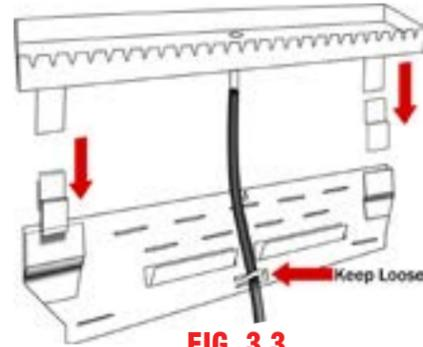

FIG. 3.3
4. The water disperser (E) will sit in the bracket pockets on the stone wall bracket (B). Until the stone is mounted it will need to be placed temporarily above the bracket so the stone can be positioned on the bracket cleat. Place one Pocket Clip (M) inside each of the wall bracket pockets (B) (Fig 3.3). The curved end of the Pocket Clip should be up and facing the wall. Next slide the tabs on the disperser (E) behind each Pocket clip (M) so it is holding up the disperser (E) you may need to pull the clip out from the wall to slide the tab behind as it should be a very tight fit. Do not push the disperser (E) all the way down; just enough so that it doesn't fall.